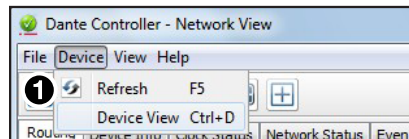

Figure 24. Device View
2. From the toolbar, select **Device>Device View** (see figure 24, **1**).